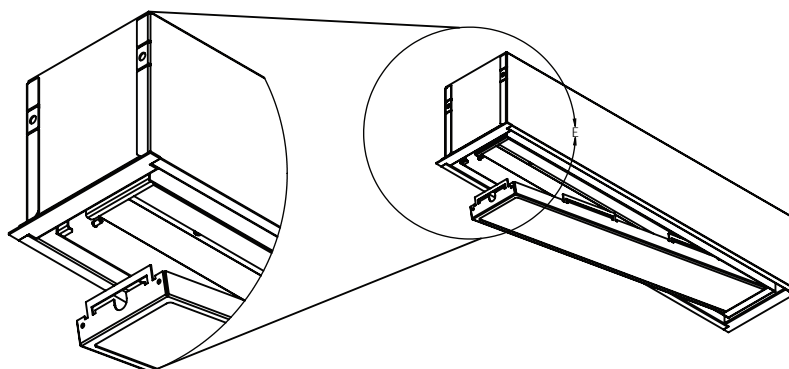

Figure 5
9. Install the correct control screens (Figure 5).